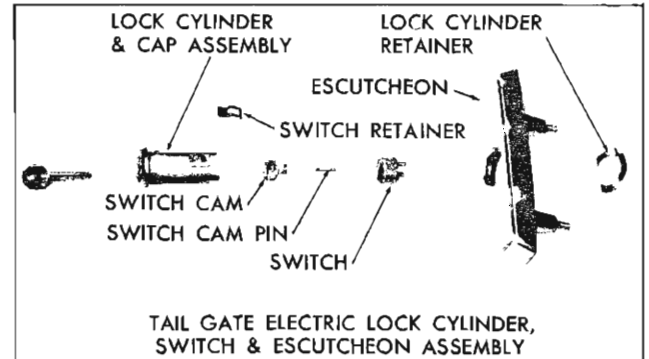

Fig. 94—Tail Gate Electric Lock Cylinder, Switch and Escutcheon Assembly
2. Disengage lock cylinder and switch retainer (fig. 94) and remove lock cylinder and switch assembly from escutcheon.
3. Using a pointed tool inserted through hole in lock cylinder case, depress tab of switch retainer and remove retainer and switch (fig. 94).
4. Using suitable pliers, grasp pin of switch cam firmly and pull switch cam straight out from lock cylinder (fig. 94).